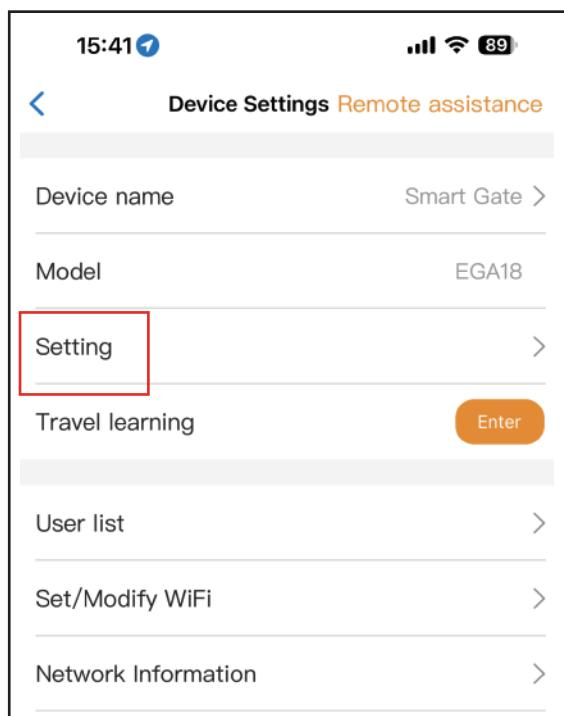

Fig 11
Step 1. Select the device, press the “” on the top right corner. Click the “Setting”. (Fig 11)